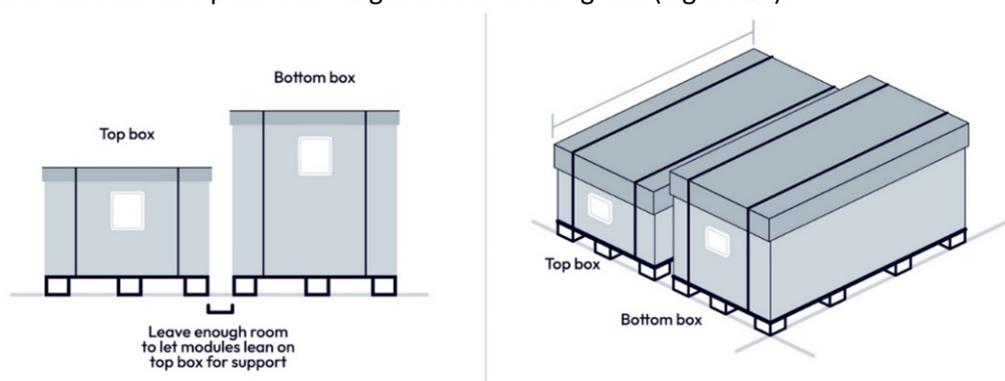

Figure 15: Boxes correct alignment.
4. Unstack the top box by using adequate tools, such as a forklift, and place it alongside the bottom box so that the two pallets are aligned over the long end (Figure 15).